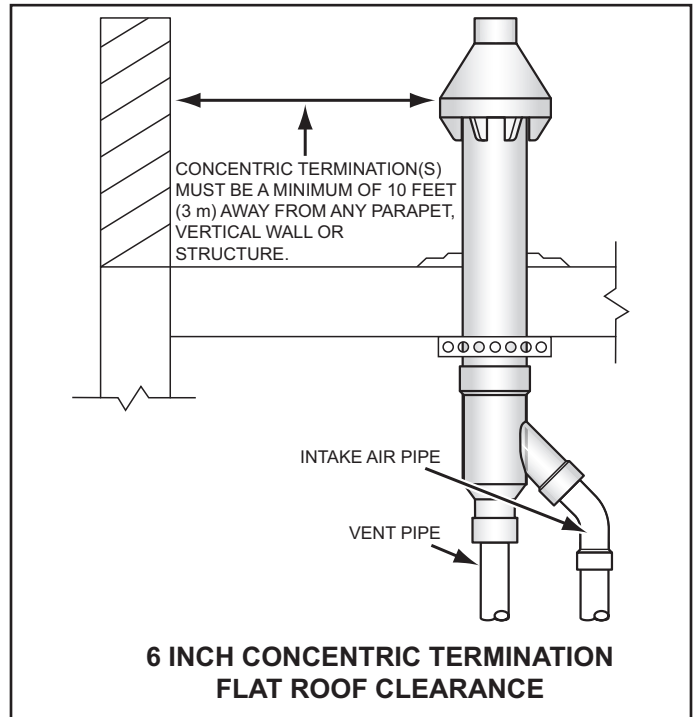
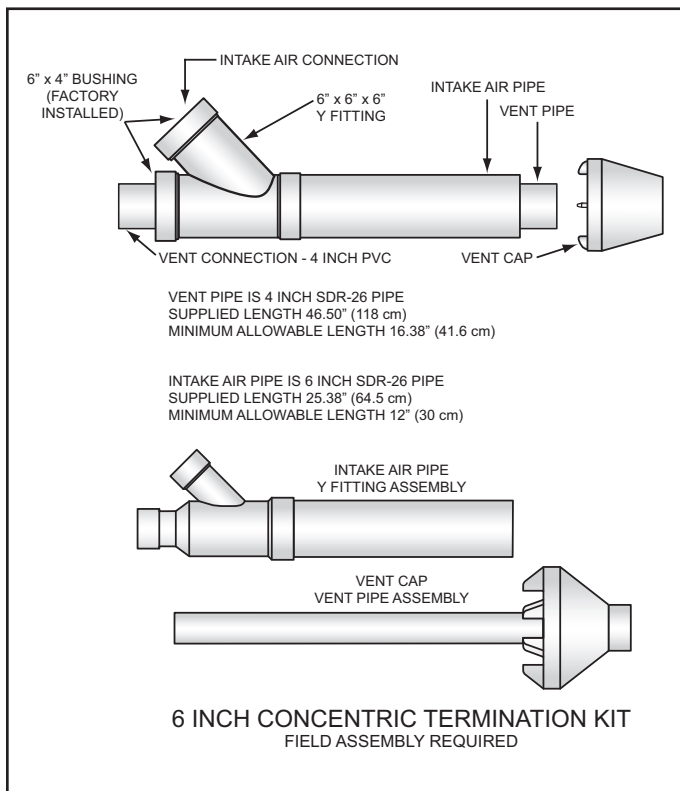
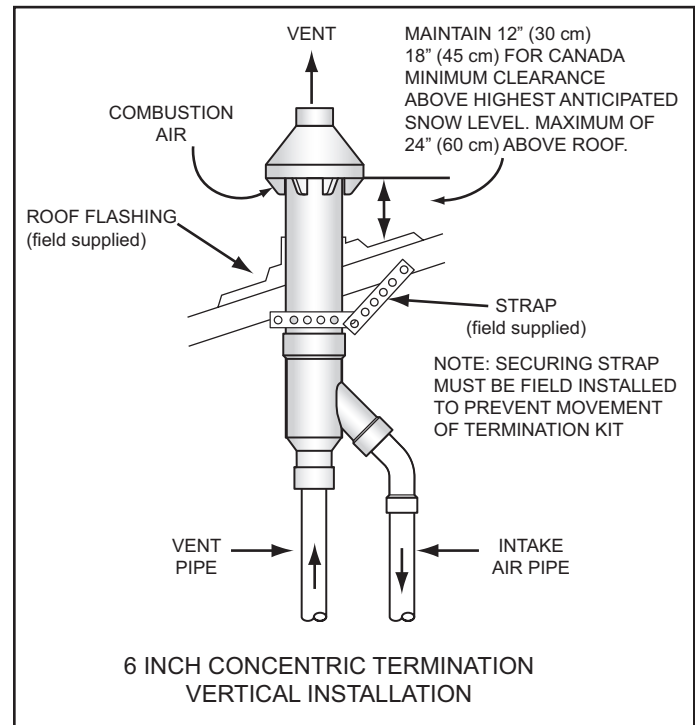
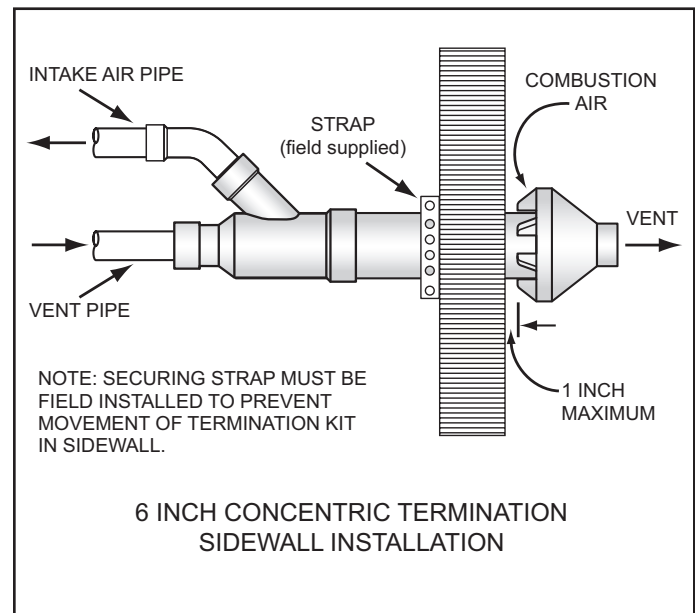

Figure 24
Figure 25
Figure 26
Figure 27
3. When installing a concentric termination vertically through the roof; ensure that all exterior vertical clearance requirements for the concentric termination, shown in Figure 24 and Figure 26 on page 30, are being maintained. These clearances and those cited by local and national codes must be maintained.
4. When installing a concentric termination vertically through a flat roof, the termination's vent cap must be a minimum of 10 feet (3 m) away from any parapet, vertical wall or structure as shown in Figure 24.
See Figure 25 for the minimum lengths allowed for the 6 inch concentric termination.
Assemble and install the 6 inch concentric termination. Refer to Figure 25, Figure 26 and Figure 27 for these instructions: